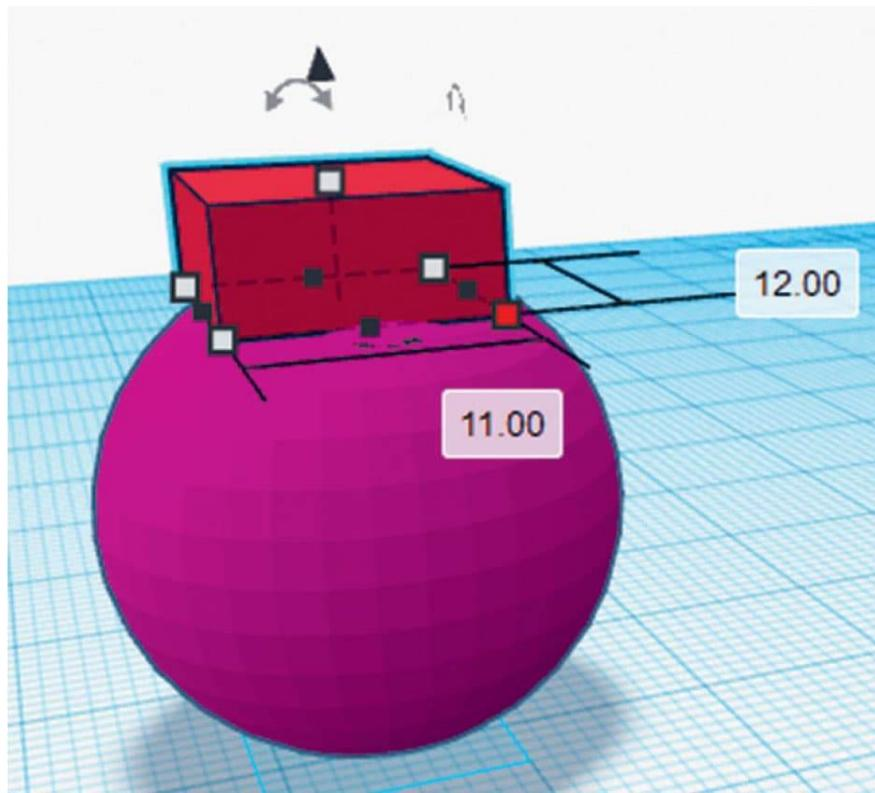

FIG.5: Create the ball for the joint and add a box for the handle.
5. To create the ball for the joint, simply use the **Sphere** tool to create a ball that is 1 mm less than the internal diameter of the socket. We used 22 mm for the ball diameter. Add a small box to use as the handle for the ball at the top (fig. 5).